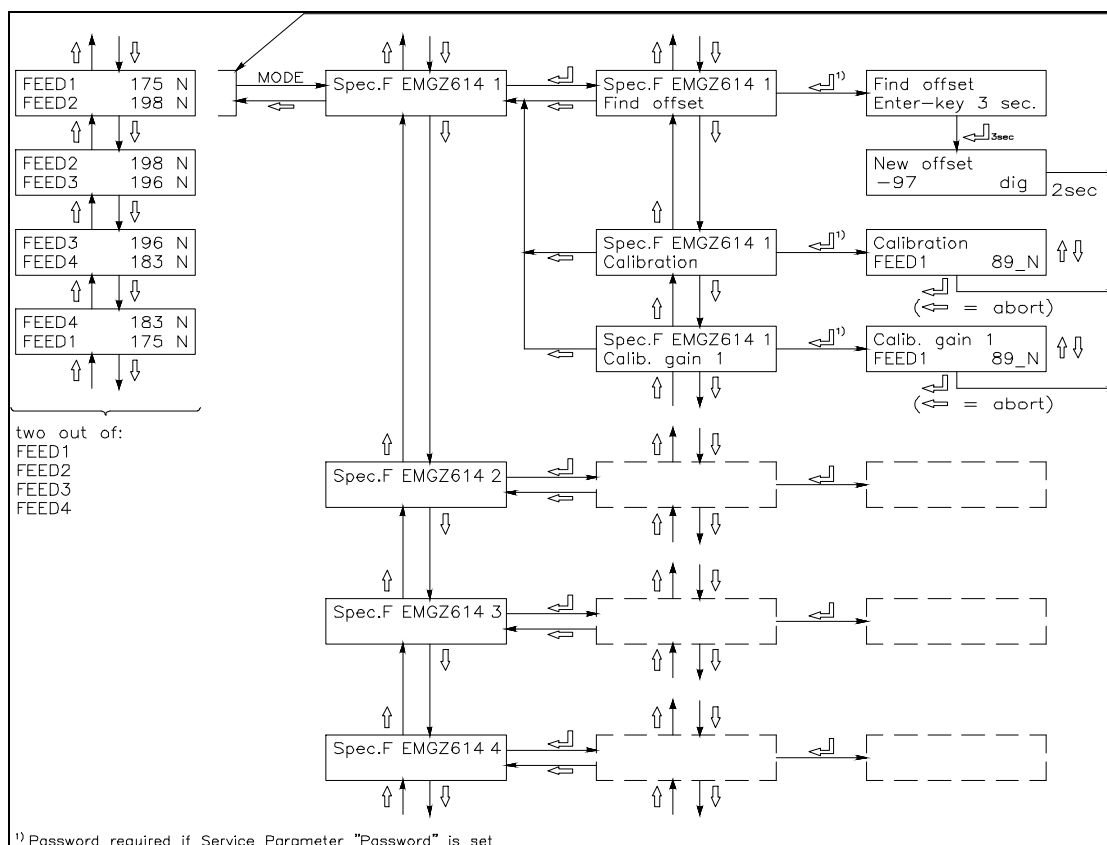

fig. 9: Main operating menu EMGZ614A
- Press MODE key. Search and select the module *Spec.F EMGZ614 1¹⁾* and the special function *Find offset* with the $\uparrow \downarrow \leftarrow$ keys (fig. 9).
- Find offset by pressing the \leftarrow key for 3 seconds (fig. 9). The electronic unit calculates automatically the new offset value. The display will return to the main operating menu.
- Press MODE key. Search and select the module *Spec.F EMGZ614 1¹⁾* and the special function *Calibration* with the $\uparrow \downarrow \leftarrow$ keys (fig. 9).
- Set the force referring to the applied weight into the display with the $\uparrow \downarrow$ keys and confirm with \leftarrow key (fig. 9). The electronic unit calculates automatically the new gain value. The display will return to the main operating menu.
Spec.F EMGZ614 2 / Spec.F EMGZ614 3 / Spec.F EMGZ614 4 (ref. to fig. 9).